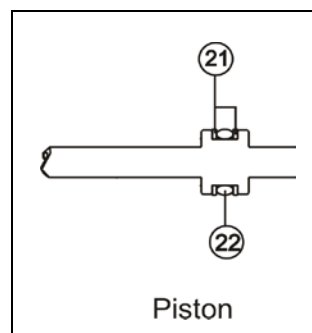

Figure 8
- 3.3.5 Remove and replace the backup (Part 21) and seal (Part 22) on the shaft piston (see Figure 8).